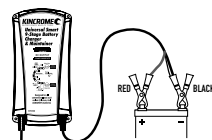

Fig 1
- Connect the BLACK (-) Crocodile clip or ring terminal to the (-) battery terminal (Fig 1).